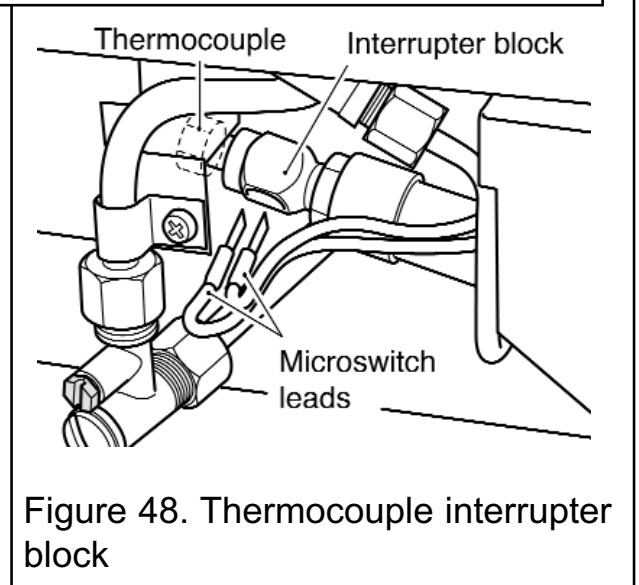

Figure 48. Thermocouple interrupter block
2. Loosen the thermocouple nut to free the microswitch leads and pull the leads clear of the thermocouple interrupter block (See figure 48).
(See figure 48).